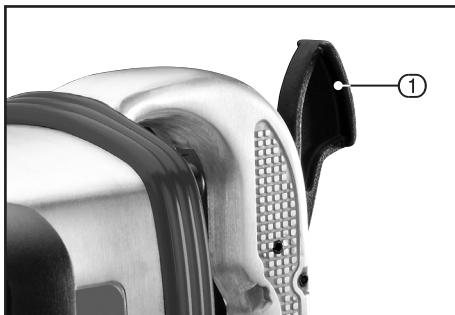

FIG.6
9.1 PALM TRIGGER SWITCH – FIG. 6